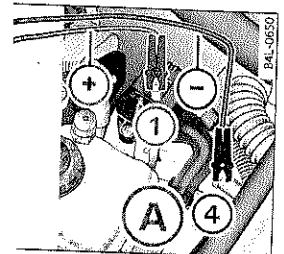

Fig. 319 Jump starting with the battery of another vehicle: A - discharged vehicle battery, B - booster battery
- 1. Connect one end of the positive cable (red) on the **jump start bolt** \Rightarrow page 390, fig. 319 ① (Bolts under red cover = "positive") of the vehicle to be started ①.
- 2. Connect the other end to the positive terminal ② of the booster battery ②.